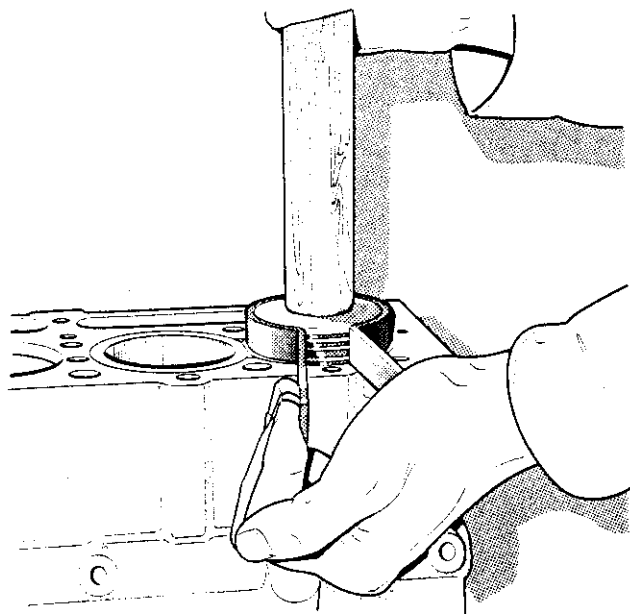

Figure 17 Compressing rings for refitting pistons
10. Insert the piston and connecting rod assemblies into the appropriate bores, ensuring that the piston crown arrow or front marking is facing the front of the cylinder block. The piston rings should be rotated so the gaps are equally spaced around the circumference of the pistons. Compress the rings using a piston ring compressor (**Figure 17**) and gently tap the assemblies into place.